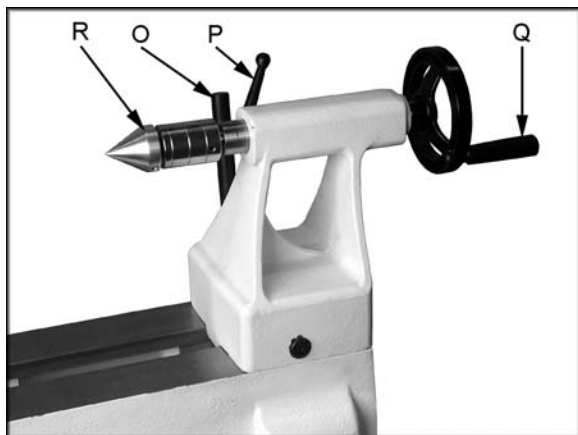

Figure 10
12. **Tailstock Lock Handle:** (O, Figure 10) Locks the tailstock in position. Unlock handle to position the tool rest in any location along lathe bed. Tighten handle when properly positioned.
13. **Tailstock Quill Lock Handle:** (P, Figure 10) Locks the tailstock quill in position. Unlock handle to position the quill. Tighten handle when properly positioned.
14. **Tailstock Quill Handwheel:** (Q, Figure 10) Turn the handwheel to position the quill. The tailstock quill lock handle must be loose to position quill.
15. **Tailstock Live Center:** (R, Figure 10) Used for turning between centers. Quill taper is MT-2. Remove live center by retracting the quill until live center loosens. Remove, or add different tips to the live center by inserting the provided rod through the holes in the center's shaft. Unscrew the tip and change as needed.